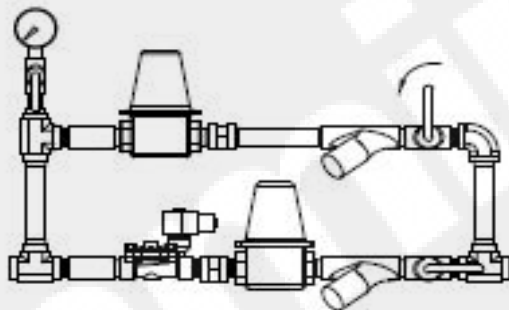

Figure 4-1 Fire Pump Drive Engine Bypass Valve
1. As shown in Figure 4-1, open the water bypass valves in the cooling water supply piping or the emergency cooling supply.